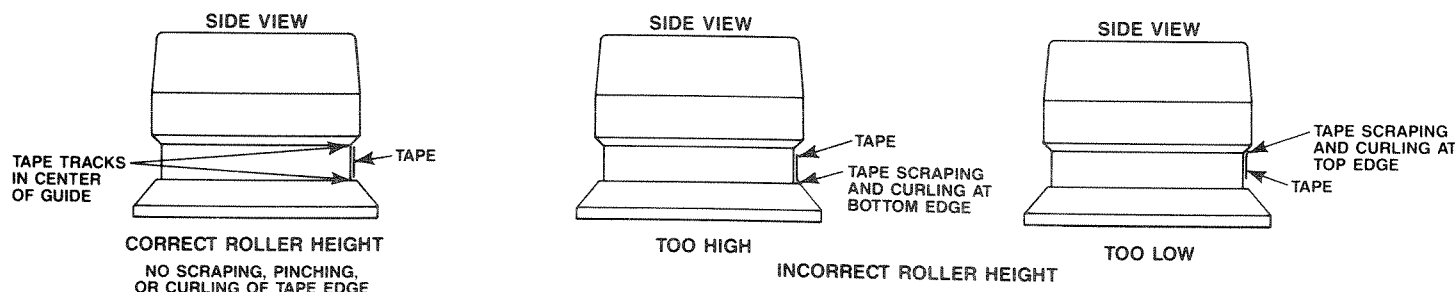

Figure 6-24. Tape Path Over the Roller Guides
or for some reason, the original adjustment of these parts is disturbed. Check the tape path over each of the roller guides referring to Figure 6-24. If the tape is riding smoothly through each of the guides without wrinkling, pinching or noise in FAST FORWARD or REWIND mode, then adjustment is not necessary.
STEP 5 Observe the tape path over the timer roller. The tape should ride in the center of the guide and no scraping noise should be detectable. Make sure that the tape rides smoothly over the guide by visual inspection (refer to Figure 6-24 Tape Path).
STEP 10 Observe the tape path over the roller guide and turn the guide alignment tool clockwise or counter-clockwise until the tape rides in the center of the roller guide and no scraping noise is detectable. Visually inspect that the tape rides smoothly over the roller guide (refer to Figure 6-24 Tape Path).
STEP 14 Observe the tape path over the S-Roller. The tape should ride in the center of the guide and no scraping noise should be detectable. Make sure that the tape rides smoothly over the guide by visual inspection (refer to Figure 6-24, Tape Path).